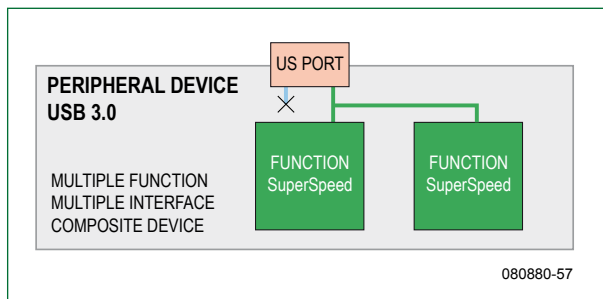

Figure 7. USB composite device.
- a peripheral with multiple functions and multiple interfaces constitutes a *composite device* (Figure 7).